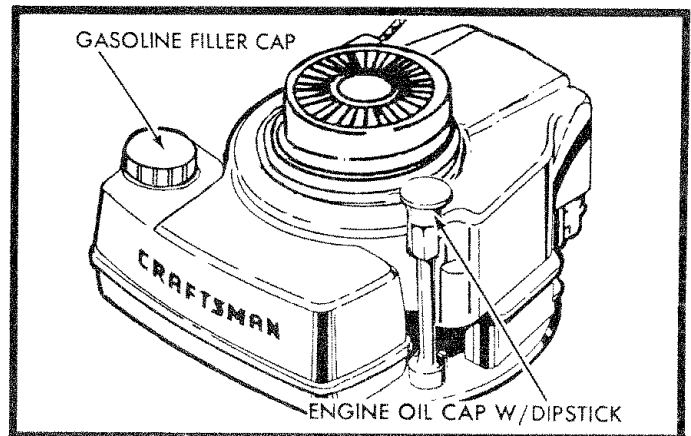

FIG. 10
- Remove engine oil cap with dipstick (See Fig. 10) and fill to the FULL line on the dipstick.
- After the first two (2) hours of mowing, change the oil, and every 25 hours thereafter. You may need to change the oil more often under dusty, dirty conditions.
- Fill gasoline tank with fresh, clean unleaded gasoline. DO NOT USE PREMIUM GASOLINE. BE CAREFUL NOT TO OVERFILL TANK (SEE FIG. 10).